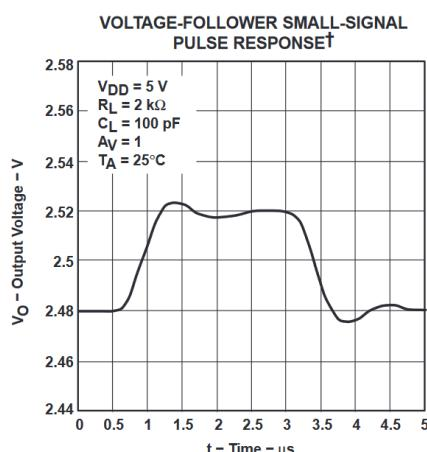

Figure 5-23.
- Where the load is referenced. When the load is referenced to either rail, this condition does not occur. The distortion occurs only when the output signal swings through the point where the load is referenced. Figure 5-23 illustrates two $2\text{k}\Omega$ load conditions. The first load condition shows the distortion seen for a $2\text{k}\Omega$ load tied to 2.5V . The third load condition in Figure 5-23 shows no distortion for a $2\text{k}\Omega$ load tied to 0V .
- Load resistance. As the load resistance increases, the distortion seen on the output decreases. Figure 5-23 illustrates the difference seen on the output for a $2\text{k}\Omega$ load and a $100\text{k}\Omega$ load with both tied to 2.5V .